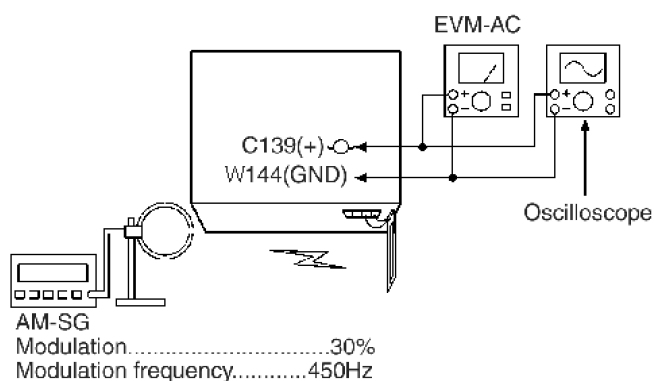

Fig.5
1. Connect the instrument as shown in Fig.5.
3. Apply signal as shown in Fig. 5 from AM-SG.